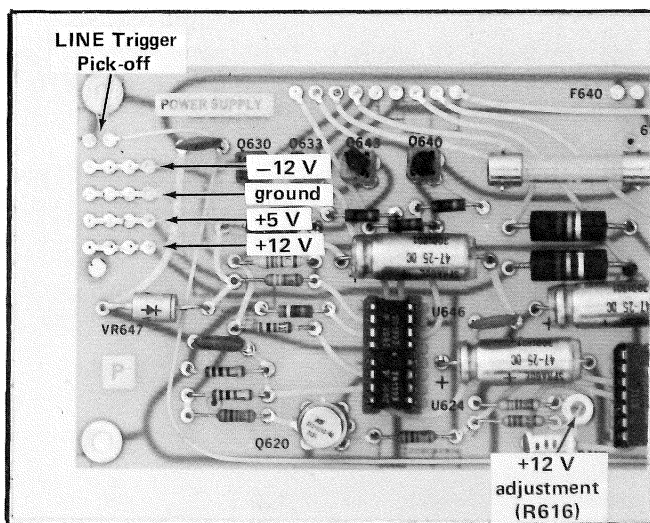

Fig. 5-1. Test points for checking Power Supply voltages.
a. Check the output voltage of the +12 V supply, using an accurate voltage measuring instrument connected between the test point and ground indicated in Fig. 5-1.
d. Check that the output of the -12 volt supply is -12 volts ±3%, at the test point indicated in Fig. 5-1.
e. Check that the output voltage of the +5 volt supply is +5 V ±3%, at the test point indicated in Fig. 5-1.